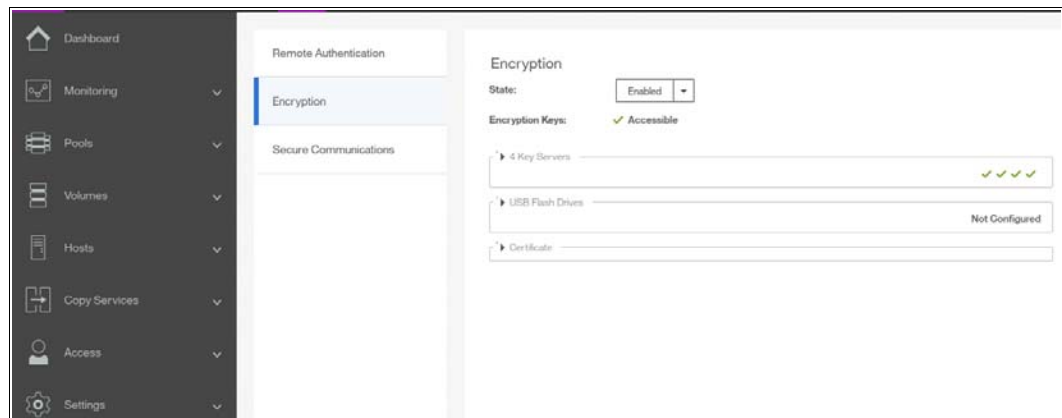

Figure 13-39 Encryption enabled with only key servers as encryption key providers
11. Confirm that encryption is enabled in **Settings** → **Security** → **Encryption**, as shown in Figure 13-39 on page 731. Note the four green checks, which indicate, that all four SKLM servers are detected as available by the system.